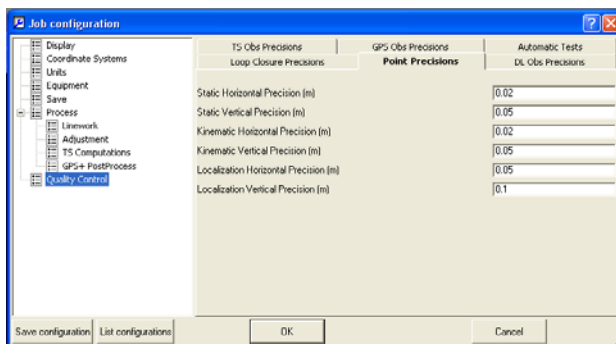

Figure 2-32. Job Configuration – Point Precisions
- The *Point Precisions* tab sets horizontal and vertical precisions for the coordinates of static, kinematic and localization points (Figure 2-32). If horizontal (*Std Dev Hz*) and vertical (*Std Dev u*) residuals for a point are worse than the value in the settings in this tab, the point is highlighted in red in the *Points* tab, in Map view, and in Reports.